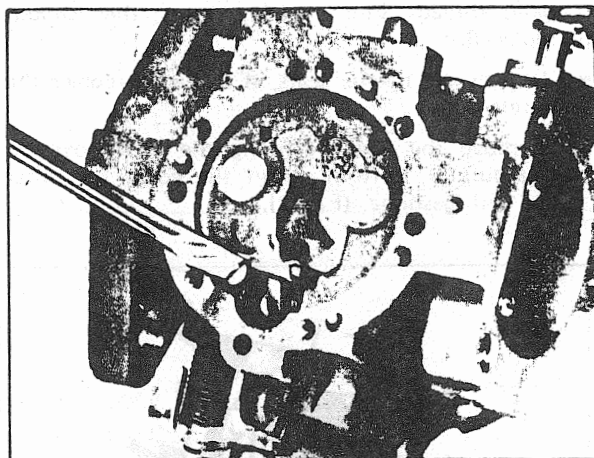

FIGURE 4
- Remove the fulcrum pin retaining screw with the fulcrum pin, inlet control lever and inlet tension spring. (Fig. 4).